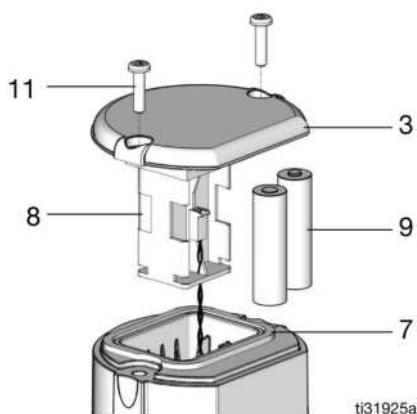

FIG. 12
1. Remove the two screws (11) and the cover (3) (FIG. 12).
2. Carefully pull the battery holder (8) just far enough out of the TLM to install the batteries (FIG. 12).